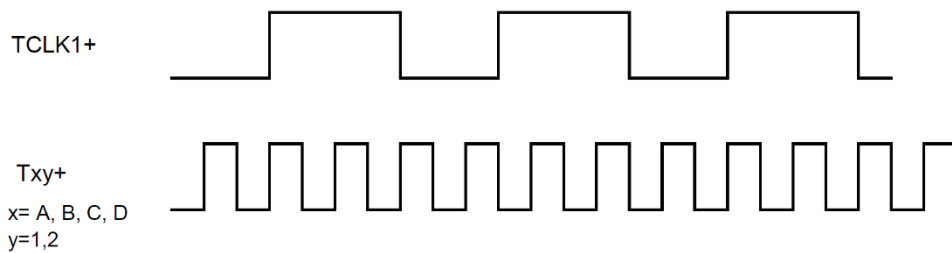

Figure 3. Test Pattern (LVDS Output Full Toggle Pattern)
- (b) All Max. values are at VCC=1.98V, Ta=105°C . Worst Case Test Pattern produces maximum switching frequency for all the LVDS outputs (Fig.3).